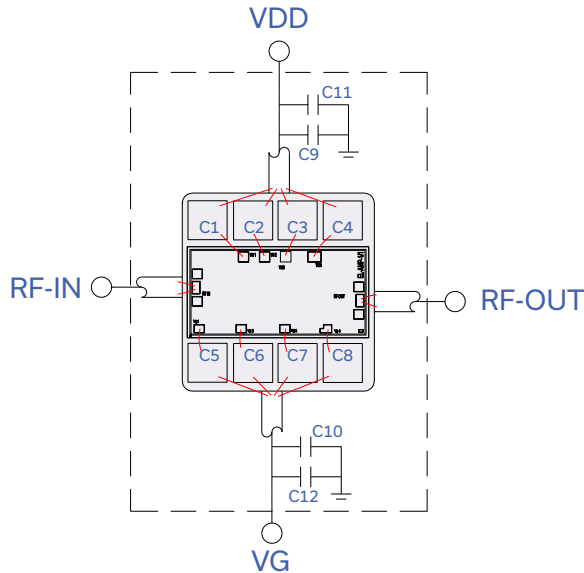

Fig 1. Characterization, Application Circuit & Assembly Drawing
1. Measured on Mini-Circuits Characterization Test Board. See Characterization Test & Application Circuit (Fig. 1)